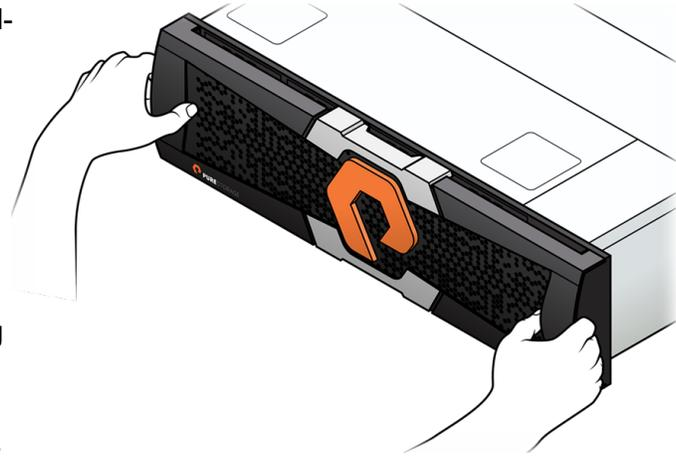

Figure 15-1. Removing the Bezel
1. To release the bezel, press the Bezel latches and pull forward. See Figure 15-1.